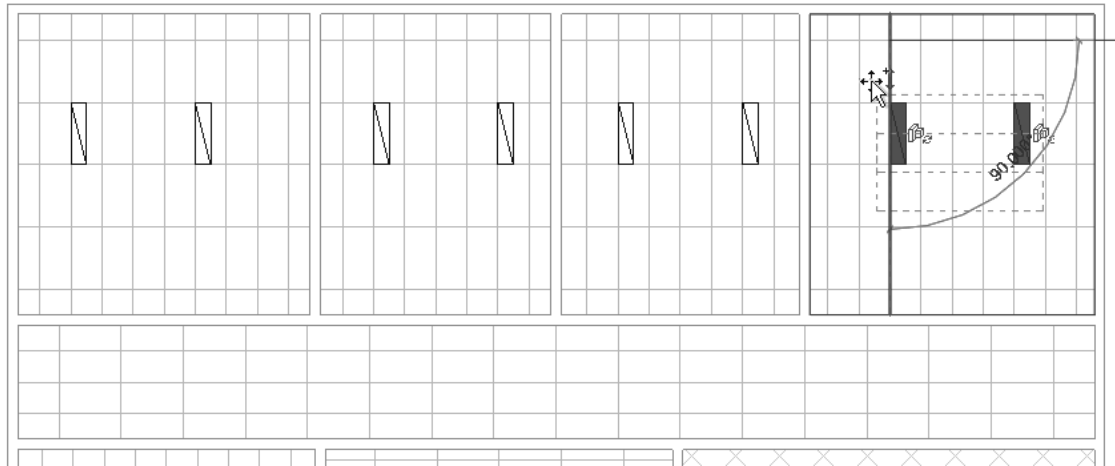

Figure 2–64
2. Copy the lighting fixtures to the other rooms on the same side of the hall, similar to the example shown in Figure 2–64.